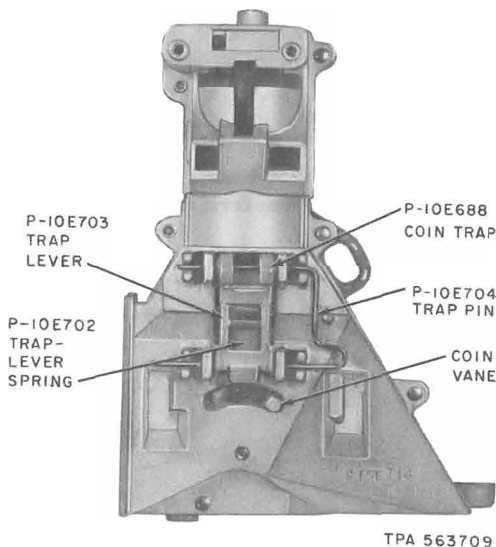

Fig. 28—Trap-Lever Spring and Trap-Lever Assembly
- (1) Remove coin relay from hopper (4.07).
- (2) Move vane to right.
- (3) Remove trap pin (Fig. 28) by sliding vertical portion over boss on front of hopper.